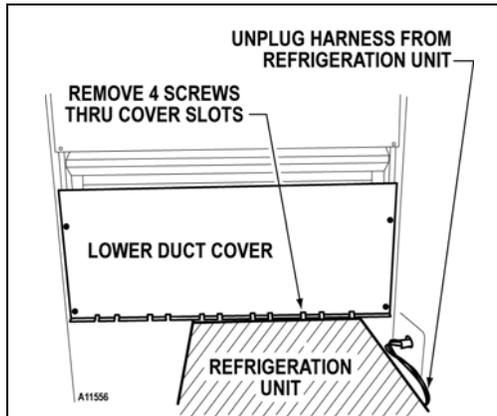
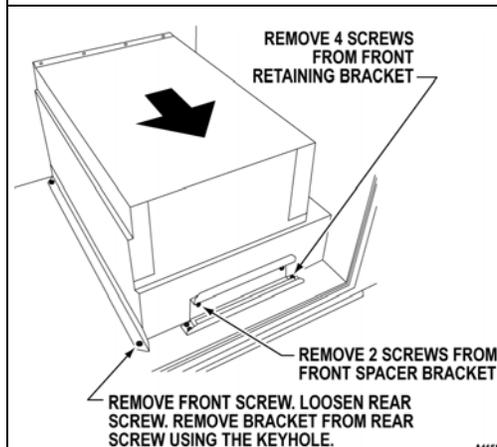

Figure 10g. Remove Rear Deflector Screws & Unplug Harness
Figure 10h. Remove Front Brackets and Side Brackets
2. Remove the bottom two (2) trays but do not remove the tray rails. See **TRAY ADJUSTMENTS** on page 9.
3. Locate the cabinet control harness on the top right of the refrigeration unit. It has three (3) plugs. Unplug the connector to refrigeration unit and the evaporator fan. The 3rd plug is for the optional heater. See Figure 10g. Remove harness from any retaining clips mounted on the refrigeration unit.
4. Through the bottom slots of the Lower Duct Cover, remove the four (4) screws that attach the refrigeration unit (rear air deflector) to the rear of the cabinet. See Figure 10g.
5. Remove the two (2) screws on the front spacer bracket. Pull on the top edge of the front spacer bracket and swing it down to remove it.
6. Remove the front retaining bracket by removing the four (4) screws. See Figure 10h.